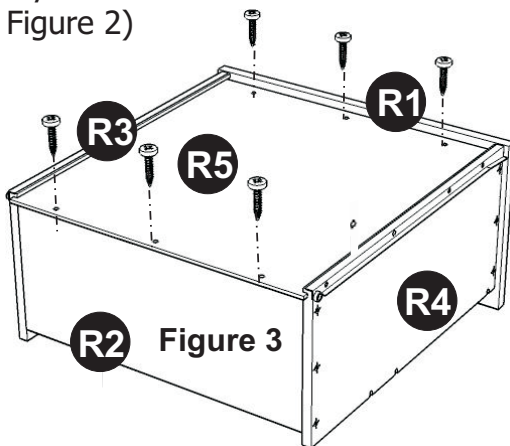

Figure 3
Attach Door Post (M), (N), Doors (O) and (P) by sliding the door lift hinges into the side panels lift hinges (See figure 3).
Insert short wood screws (2X) into the pre-drilled holes in Q5, tighten screws. (see Figure 3)
Insert short wood screws (6X) into the pre-drilled holes in R5, tighten screws. (see Figure 3)